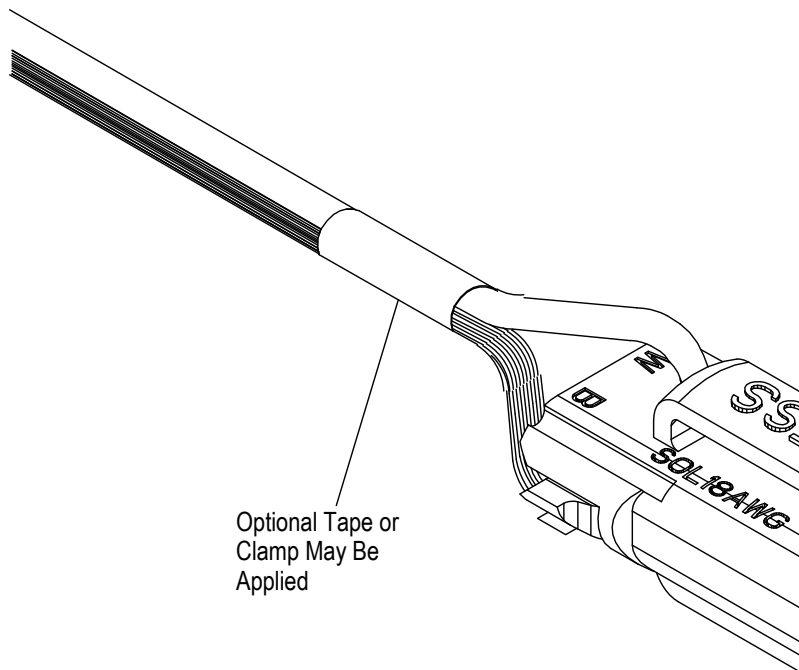

Figure 7
7. Apply optional approved flammability rated tape or clamp to organize the wire. See Figure 7.